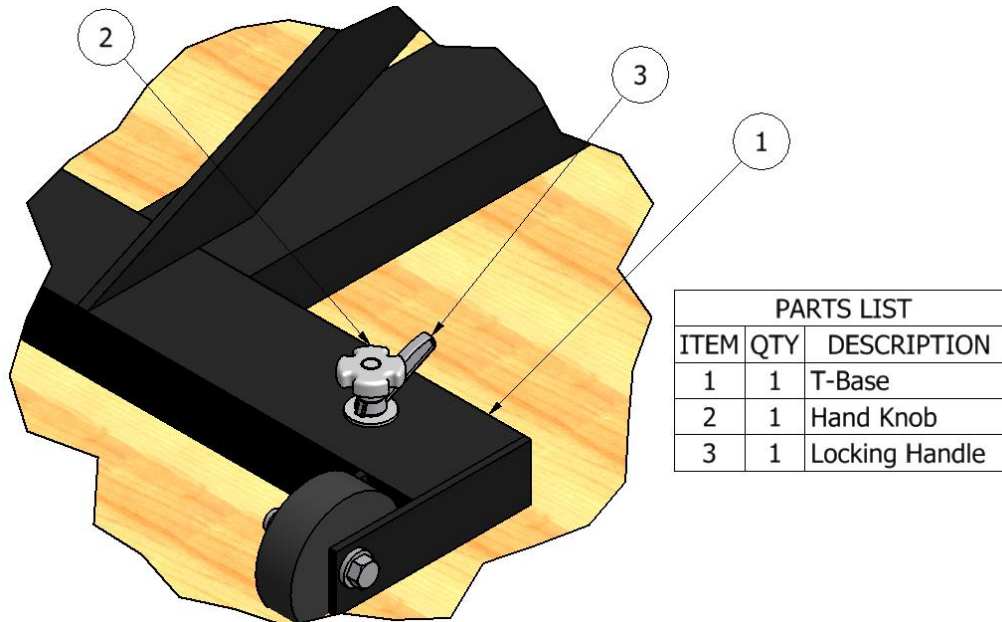

Figure 6-3: Installing t-base into floor anchors.
7. Thread the hand knob into the anchor; be sure to get at least $\frac{3}{4}$ " of thread engagement (Figure 6-3). Tighten locking handle to lock and knob in place.